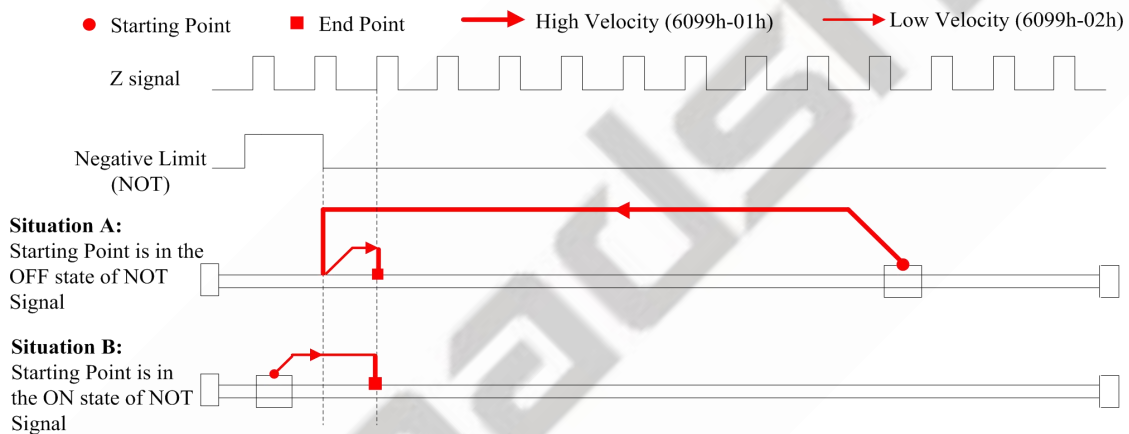

Figure 7-1 Method 1
- If the motor starting point is not at the Negative Limit position like Situation A, it will move toward negative direction at Fast Homing Velocity (6099-01h) until the Negative Limit goes ON, then the motor stops quickly and starts to move toward positive direction at Low Homing Velocity (6099-02h). The motion stops at the first effective Z signal after leaving the Negative Limit Switch, as shown in Figure 7-1.